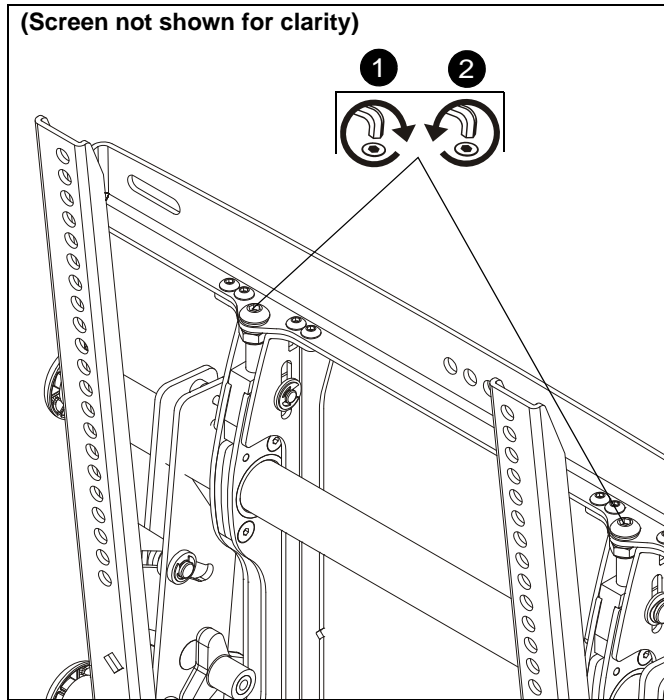

Figure 10
1. Use 3/16" hex key (F) to turn height-adjust screws to right (tighten) to raise side of screen. (See Figure 10)
2. Use 3/16" hex key (F) to turn height-adjust screws to left (loosen) to lower side of screen. (See Figure 10)